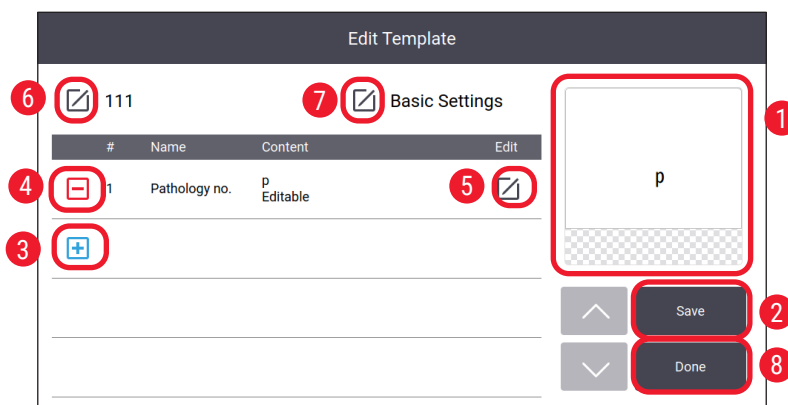

Fig. 46
3. Tap **New** (→ Fig. 42-2). The **Basic Settings** screen (→ Fig. 46) is displayed.
- H. The item is displayed in the list (→ Fig. 46). Move the item in the preview box to the desired position (→ Fig. 46-1).